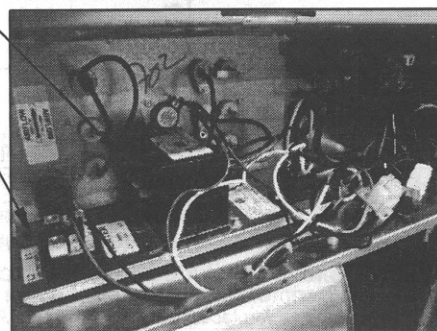

FIGURE 6
- 8.) Make all wiring connections per applicable field wiring diagrams. Unit must be wired with appropriate voltage applied to proper input(s) to insure proper function and avoid damage to Unit. (See Fig. 6)